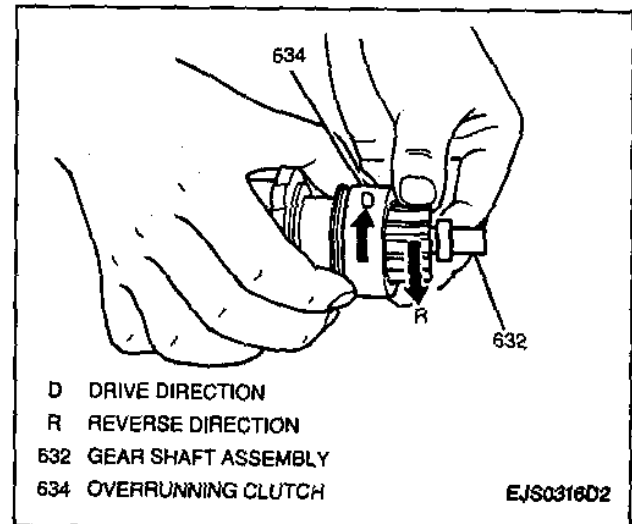

Figure 31—Inspecting Overrunning Clutch Operation
2. Overrunning clutch for wear, damage or other abnormal conditions. Check that the clutch locks when turned in the drive direction and rotates smoothly in the reverse direction (Figure 31). Replace as necessary.